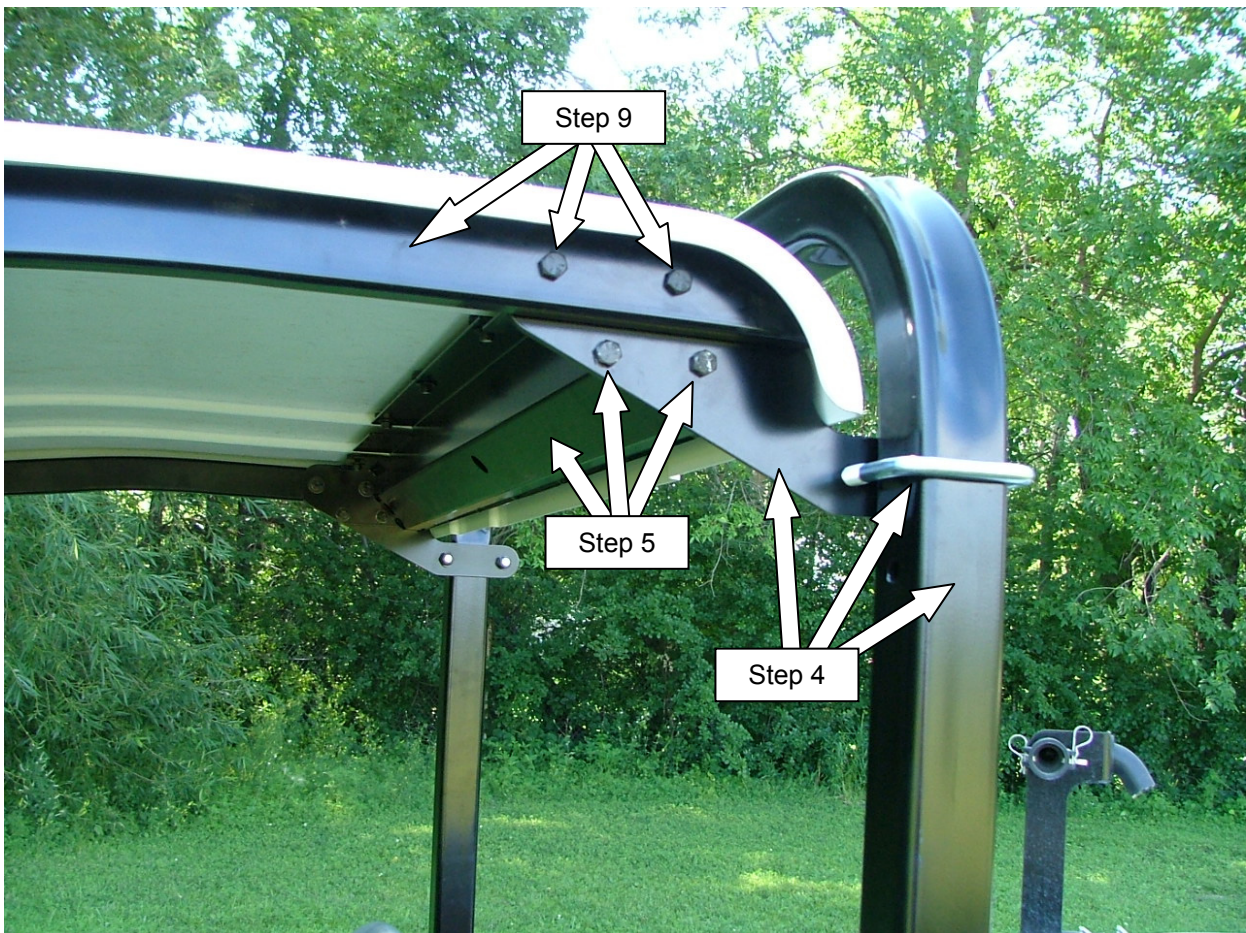

Figure 2
3. Place rear mount plates onto inside surface of ROPS, near the start of the bend (**Figure 2**).
- (2) 1/2 x 3 x 3.50" U-bolts
- (4) 1/2" Nylock nuts
5. Attach rear cross member to inside of both rear mount plates (**Figure 2**) and secure using;
9. Align upper rear holes of side frame tube with rear mount plate and cross member (**Figure 2**).